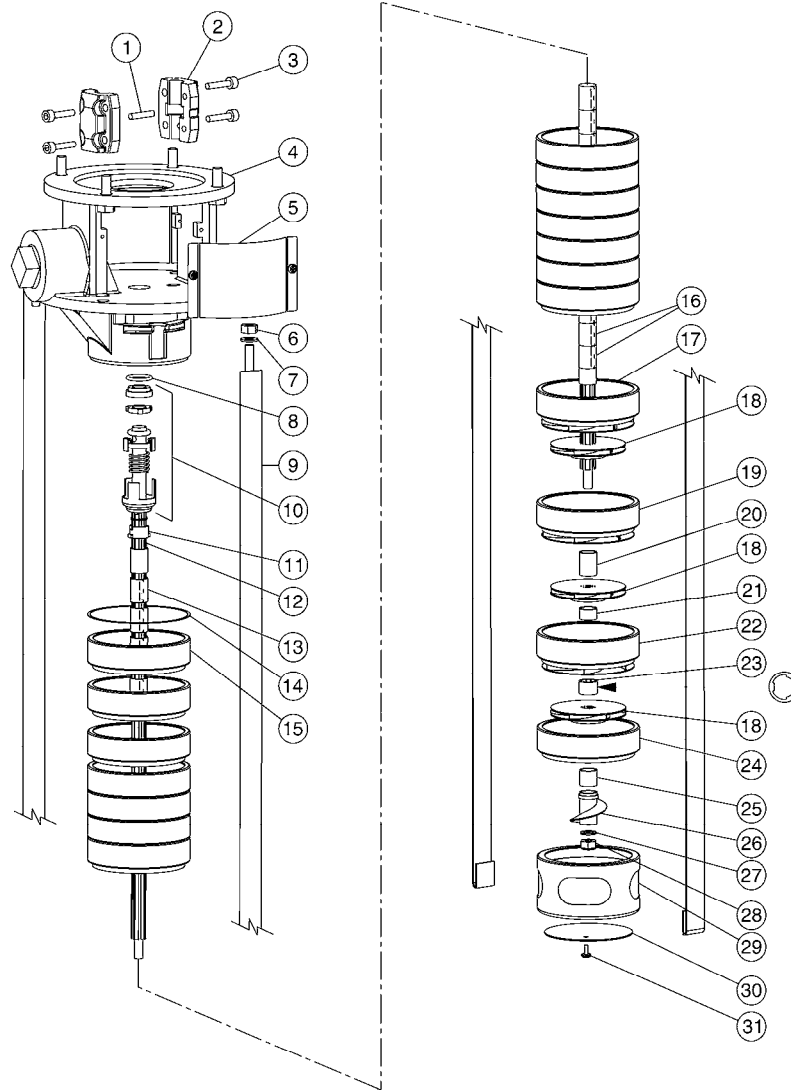

Figure 1-3. Exploded view of the Multi-Stage Vertical Centrifugal Pump.
**Note:** *An exploded view of the Multi-Stage Vertical Centrifugal Pump is shown in Figure 1-3.*
- 1. Refer to Figure 1-3 to locate and identify the various components of the Multi-Stage Vertical Centrifugal Pump.
**Note:** *The number between brackets refers to the numbers in Figure 1-3.*